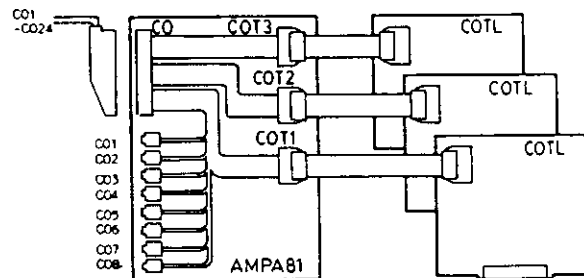
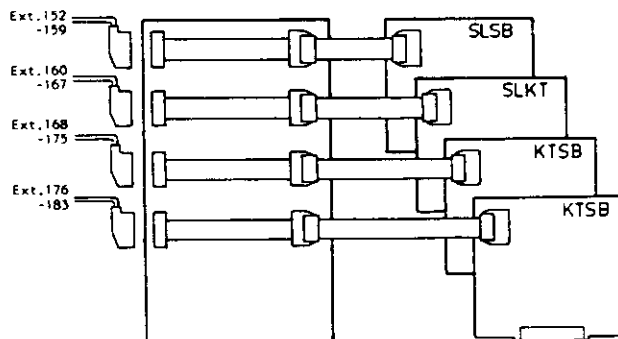

FIGURE 6-9 ZT-616
FIGURE 6-10 ZT-824/2464
2.09 The ZT-D KSU terminates the external components wiring on the distribution panels. Various types of connectors — 50-pin Amphenol type connector, 6-pin modular jack, 25-pin data connector, RCA-type phono jack, AMP-type connectors, and screw terminals — are provided to suite the device connection requirements. Figure 6-9 illustrates the ZT-616 termination and Figure 6-10 illustrates the ZT-824, 2464.